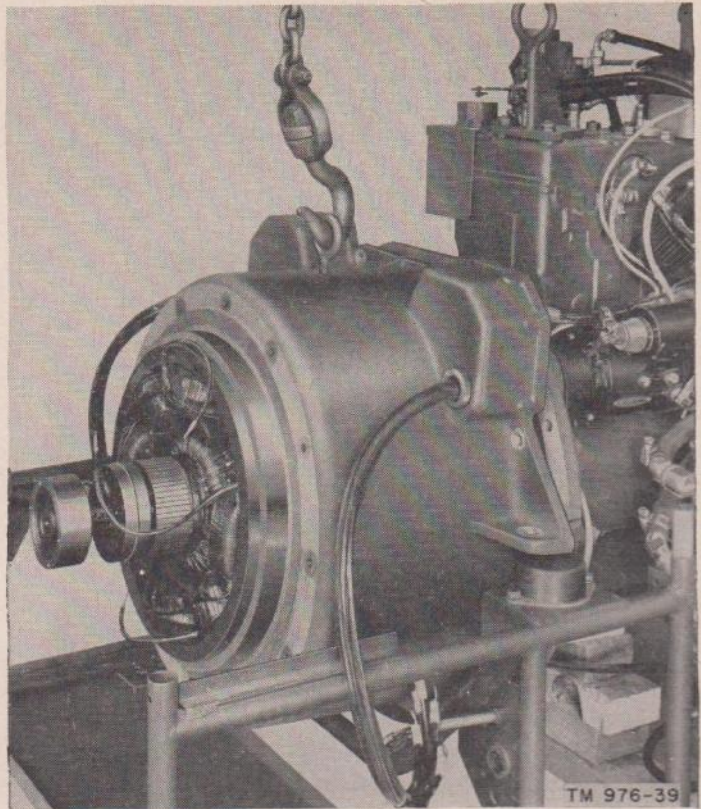

Figure 39. Removing housing and stator assembly.
- (1) Remove the heat exchanger pan as instructed in paragraph 53*n*(2).
- (2) Loosen the two lower radiator mounting bolts. Then remove the bolt which is used to secure the muffler mounting clamp to the lower frame.
- (3) Remove nuts (25), lock washers (26), flat washer (27), and bolts (28) which are used to secure the stator housing to the shock mounts and lower frame. Install the generator lifting eye (supplied with the unit) into the tapped
hole on top of the stator housing. Attach a chain hoist into the lifting eye (fig. 39). Raise the rear of the engine and generator approximately 5 inches, or until the stator housing mounting flange will clear the lower frame crossmember. Place a block of wood under the rear of the oil pan and slowly lower the engine until it rests securely on the block. Remove the nuts (29), lock washers (30), flat washers (31, 32), and bolts (33) that are used to mount the stator housing to the flywheel housing (34). Carefully swing the stator housing away from the unit (fig. 39).
- (4) Test the stator (35) for continuity, shorts, and grounds as instructed in *e*(3) below.
- (5) Remove screws (36), lock washers (37), and stator junction box cover plates (38). Pull the stator leads out through the bushings. Install two bolts (12) part way into the stator housing. Hook a chain around the two bolts and attach a hoist to the chain. Then raise the stator housing off the ground approximately 1 or 2 inches, and heat the housing with a torch. As the housing is heated it will expand and release the stator assembly.